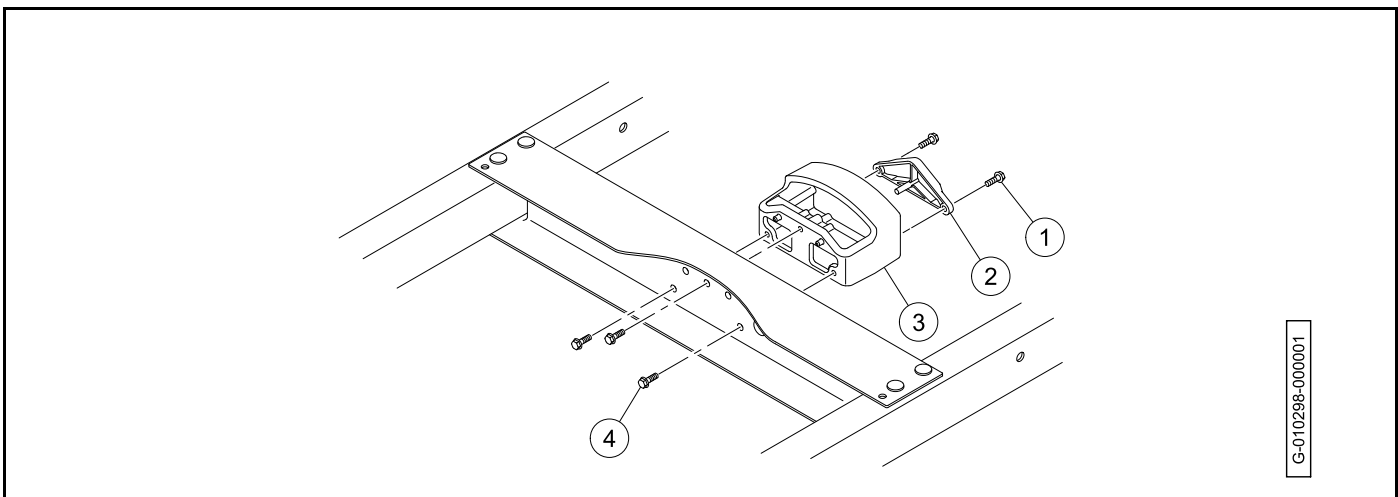

Figure 21-10 Snubber Housing and Spacer
1. Remove the two bolts (1) securing the snubber spacer (2) to the snubber housing (3) (**Figure 21-10, Page 21-8**).
2. Remove the three bolts (4) securing the snubber housing to the vehicle frame.
1. Install the snubber housing (3) onto the vehicle frame (**Figure 21-10, Page 21-8**).
3. Attach the snubber housing to the vehicle frame with the three bolts (4). Tighten the bolts from 6.6 to 8.1 ft·lb (9 to 11 N·m).
4. Slide the snubber spacer (2) into the snubber housing.
5. Attach the snubber spacer to the snubber housing with the two bolts (1). Tighten the bolts from 3.7 to 5.1 ft·lb (5 to 7 N·m).